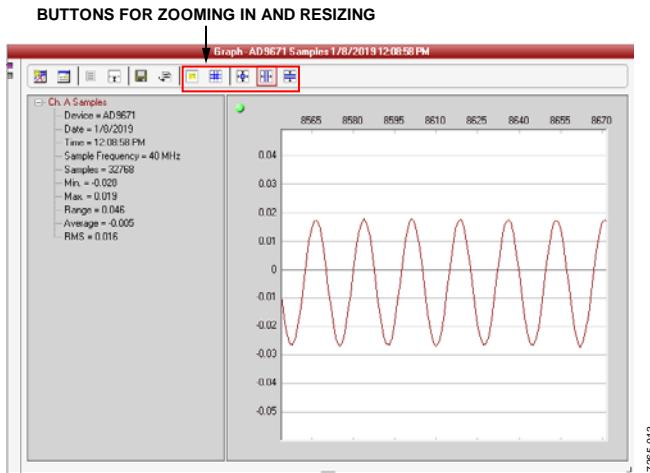
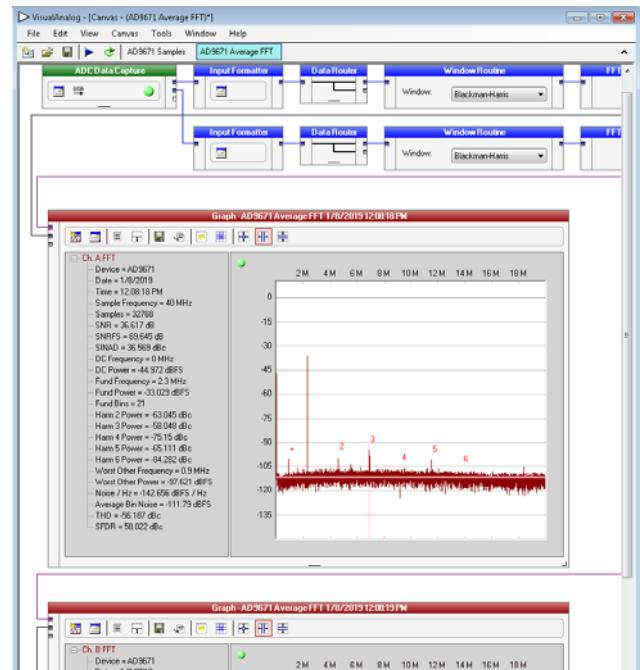

Figure 13. Sample Canvas Output Window
Figure 14. Average FFT Canvas Output Window
- Click the blue arrow on the upper left side of the **VisualAnalog** toolbar shown in Figure 14 to run the canvas once, or click the green repeat button to set the canvas to run continually. The **Samples** canvas produces two windows that show 8192 time domain samples for Channel A and Channel B, as shown in Figure 13.
- The **AD9671\_Average\_FFT.vac** canvas is set up for running and calculating fast Fourier transform (FFT) as shown in Figure 14. The average count is set to five, which means the canvas either needs to be run five times, or left in continuous run mode. The results in Figure 14 show the shaping of the noise floor as a result of the analog filters and the digital high-pass filter.